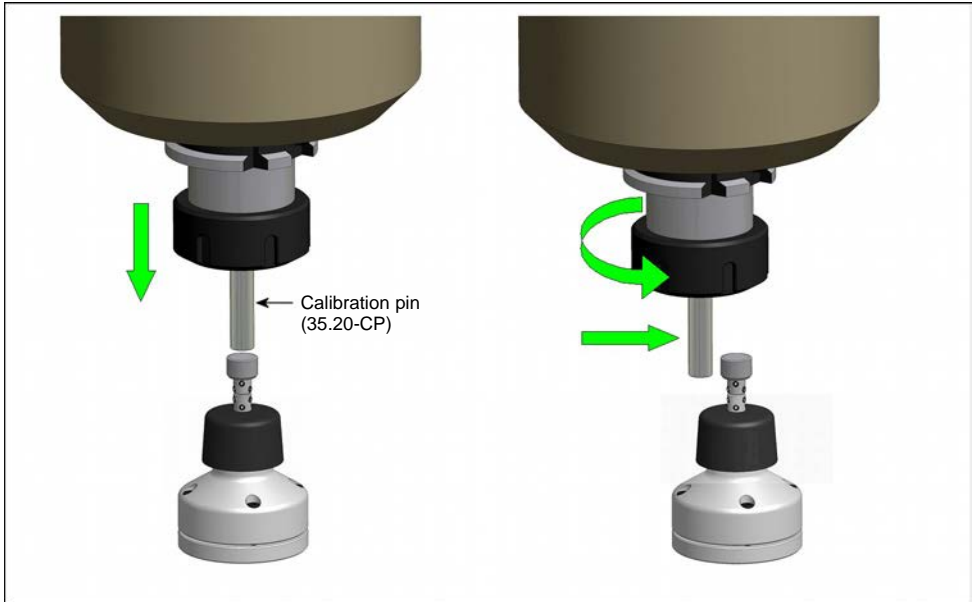

Fig. 7 Tool Setter Calibration
1. Loosen the grub screws D, E and F (refer to Fig. 7) and remove the cylindrical stylus together with the break shaft from the break shaft adapter.
2. Loosen the grub screws A, B and C of the cylindrical stylus (refer to Fig. 7) and remove the break shaft.